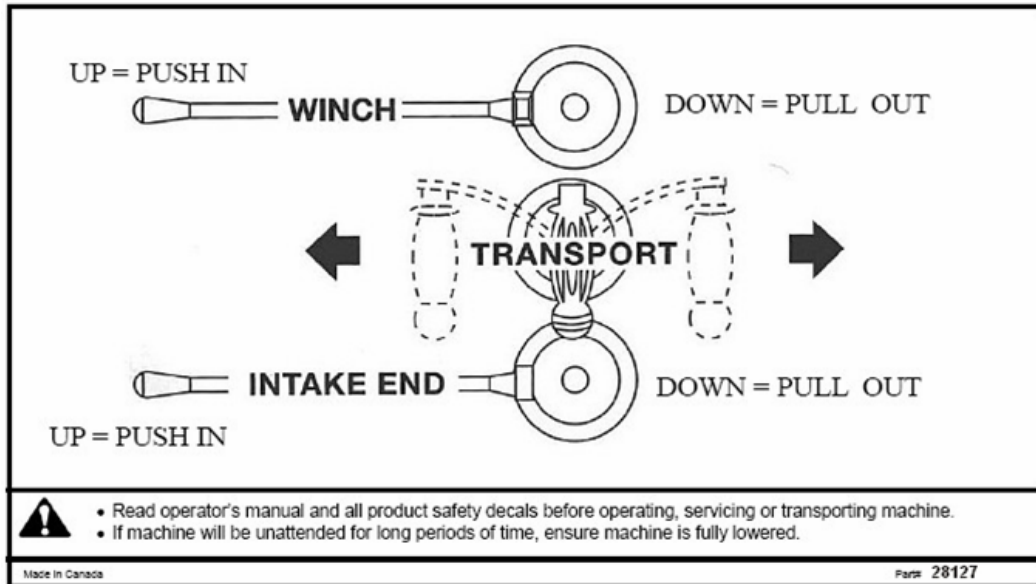

Figure 5.1 Hydraulic Control Decal
1. With the engine at idle, use the hydraulic controls (Figure 5.1 and 5.2) to fully lower the auger with the **winch control** lever on the valve before moving the auger into position.